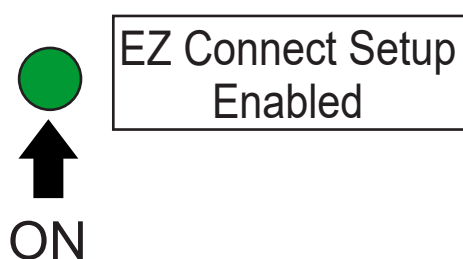

Figure 123. EZ Connect Setup Enabled Status Indicator (ON/GREEN)
- Verify that the **EZ Connect Setup Enabled** status indicator (Figure 123) is **ON (GREEN)**.